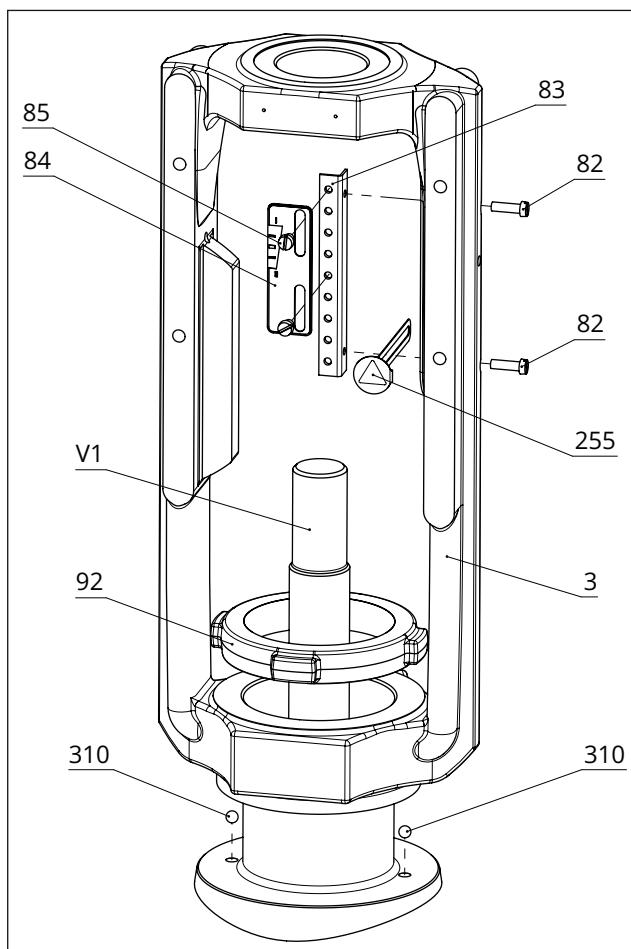
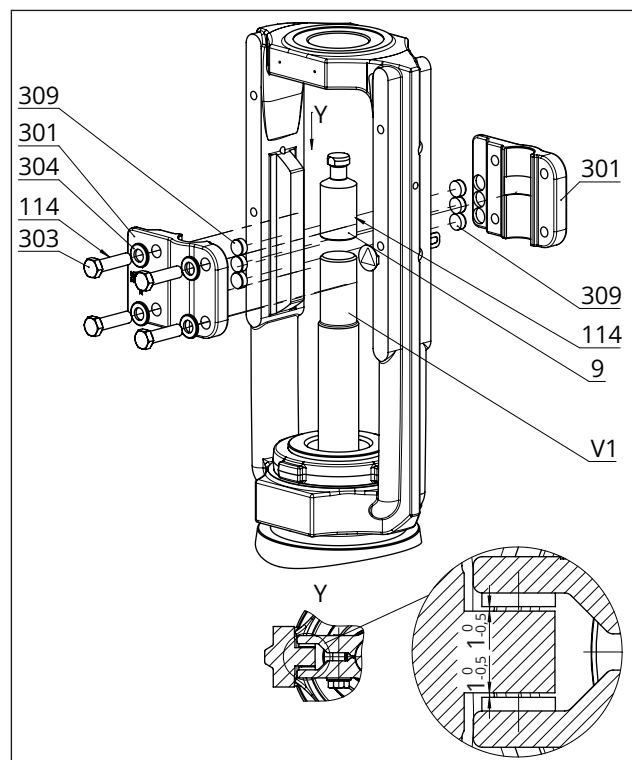

Fig. 22: Overview of yoke assembly with travel indicator scale in the standard version
Fig. 23: Overview of anti-rotation fixture assembly in the standard version
See Fig. 22 and Fig. 23
- There is a nominal clearance of 0.5 to 1 mm between the sliding washers and their contact surface on the yoke on each side (see detailed view Y in Fig. 23).